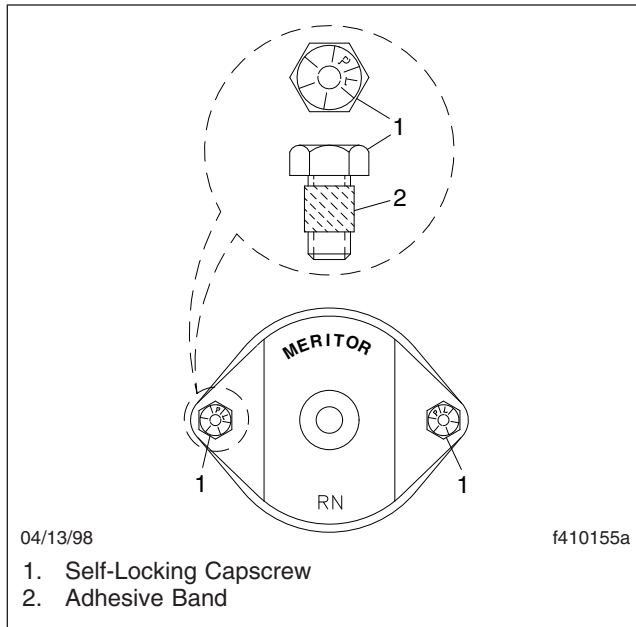

Fig. 10, Meritor U-Joint Fasteners for Full-Round Yokes
- 3.4 Install *new* bearing-cup-plate self-locking capscrews. See Fig. 10. Tighten the capscrews until all the parts are drawn down tight, with no gaps; do not tighten the capscrews to their final torque value.